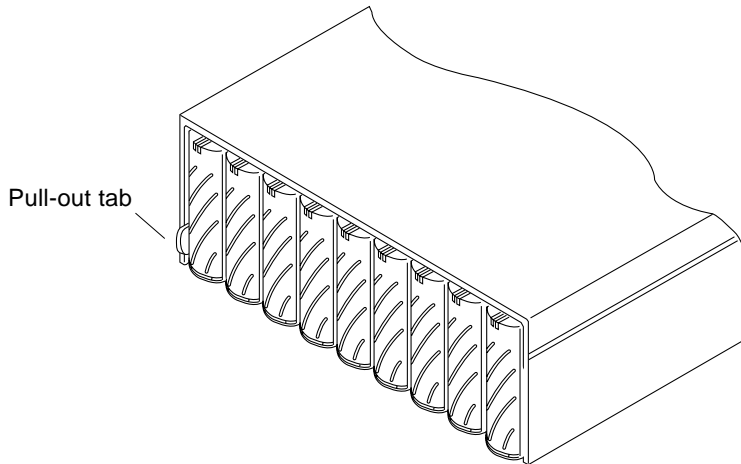

FIGURE 10-3 Location of Pull-Out Tab With MAC Address
- **MAC address.** The MAC address is located in the pullout tab at the front of the array (FIGURE 10-3).